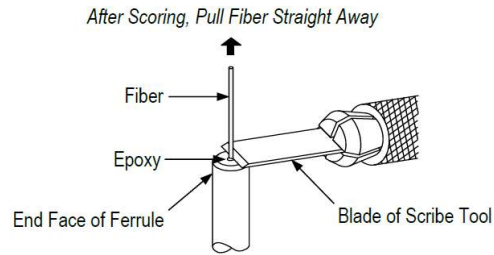

Figure 4
- Place the blade of the sapphire scribe tool just above the cured epoxy bead on the end face of the ferrule and score the fiber with a light transverse motion. See Figure 4.